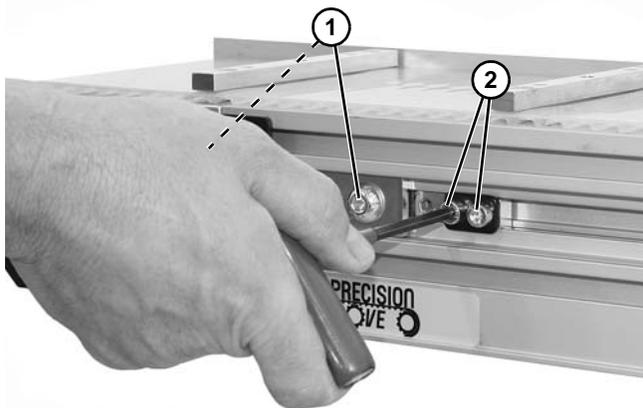

**Figure 29**
1. For fixture belt conveyors, on the opposite side of the gearmotor, remove the UHMW return rail (**Figure 29, item 1**) by removing support clip screw (**Figure 29, item 2**).
2. Remove guiding (**Figure 29, item 3**) by removing clip (**Figure 29, item 4**) on both ends of conveyor.